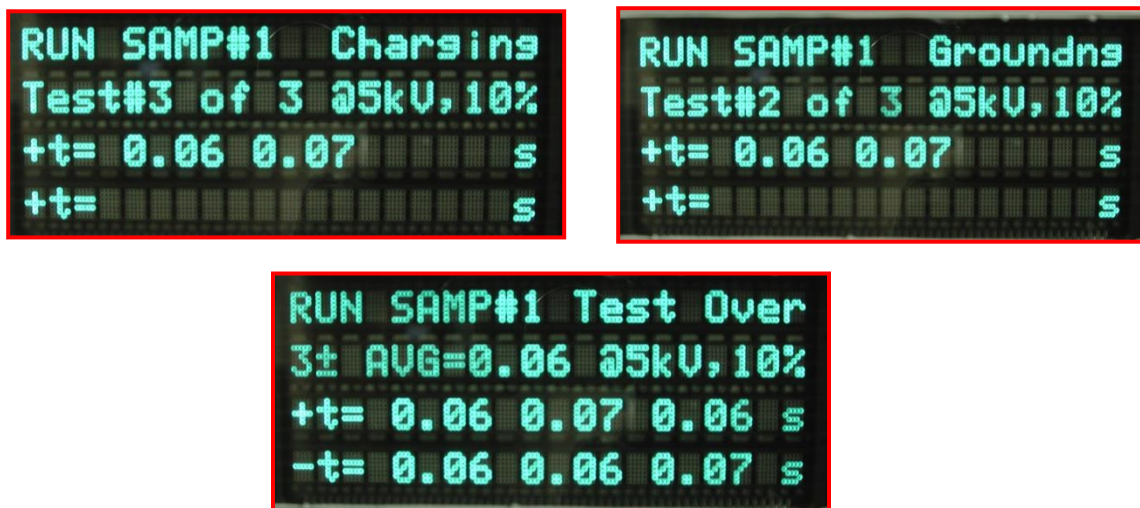

Figure 6-6: Auto mode decay test sequence display
**AUTO mode:** Select the **AUTO** mode by depressing the **AUTO/MAN** key. Depress the **DECAY TEST** key to start an automatic static decay time measurement sequence. Up to 6 measurements at +V and then at –V can be programmed. Three (3) measurements at each polarity is the default setting. Both +V and -V decay times will be displayed on the same screen. If more than 3 measurements are taken all the +V measurements are first displayed then all the –V measurements. The average of the + and – decay times for the sample tested is displayed. Each time the key is depressed another decay time sequence (on the same or new sample) will be measured and displayed as shown in Figures 6-6 The test cycle always starts at +V.